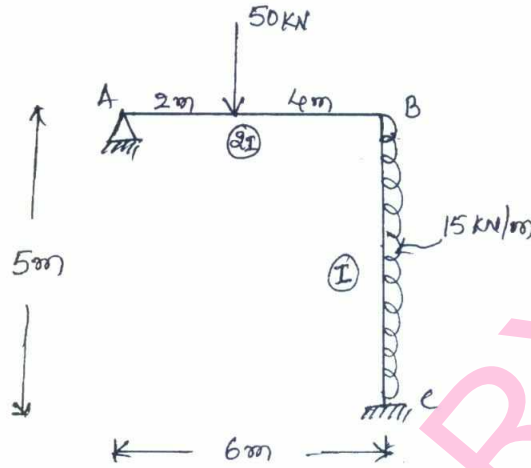

Fig. Q6
- 6 Analyse the frame shown in Fig. Q6 by using Flexibility matrix method. Use system approach. Draw BMD. (20 Marks)